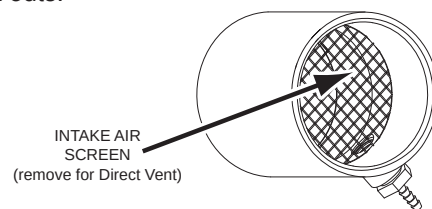

Figure 18. Intake Air Screen
13. Ensure the Intake Air Screen on the Intake Air Connection to the water heater is removed before connecting the intake air pipe to the water heater. See **Figure 18** (page 23).